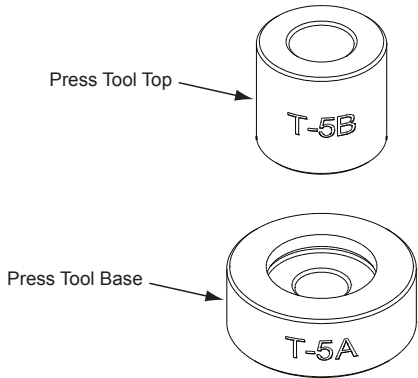

Figure 1
1. Place the T-5A Spindle Bearing Pressing Tool Base onto a flat, clean surface of a small hand press or equivalent with the spindle pocket facing upward. Place the Spindle into the spindle pocket with the shaft facing upwards. See Figures 1 and 2.